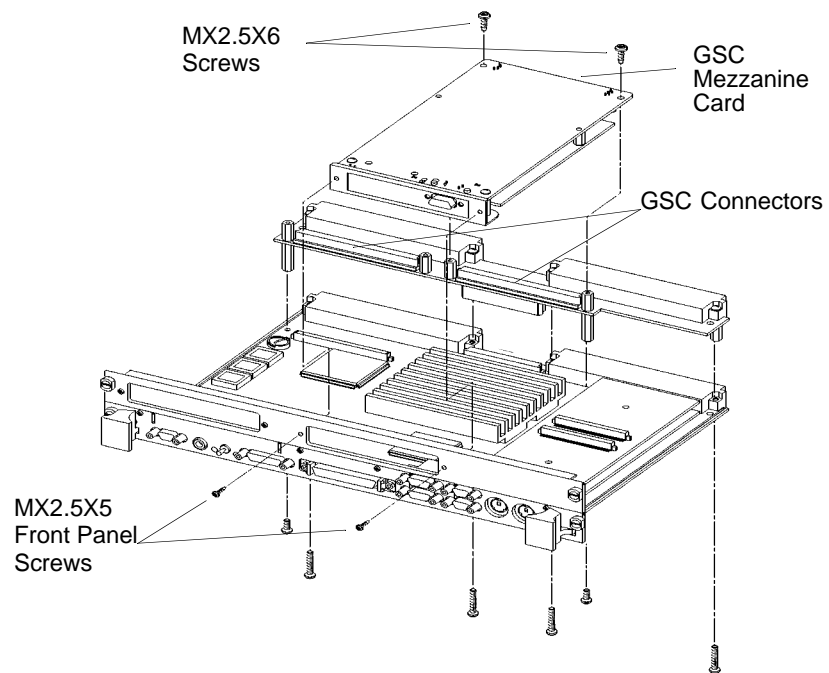

Figure 2-4 **Installing a GSC Mezzanine Card (Exploded View with Adapter)**
- 1** Working from the back of the Model 744 Board Computer, you can install GSC graphics cards into either the right-hand or center position, shown in Figure 2-4.
- 2** Using Figure 2-4 as a guide, position a card and line up its connector over the GSC connector on the board computer.